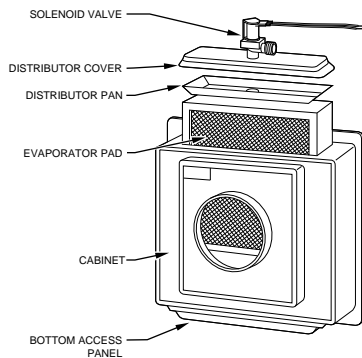

Fig. 6 — Model 49BF
- On a Model 49BF or Model 49FH humidifier, loosen the thumbscrew that holds the distributor cover to the top of the cabinet. Lift up the distributor cover slightly to make certain that water is flowing from the solenoid valve into the distributor pan. Do not lift the cover off the cabinet more than 1 in. when water is flowing. (See Fig. 6 or 7 according to the model you own.)
- To disassemble either a Model 49BF or Model 49FH humidifier, first remove the water supply connection to the solenoid valve. Next, remove the screw that holds the distributor cover to the cabinet, and lift off the cover. Disconnect the drain line from the sump and loosen the thumbscrew(s) holding the sump to the cabinet. Remove the sump. Remove evaporator pad assembly. (See Fig. 6 or 7, according to the model you own.)